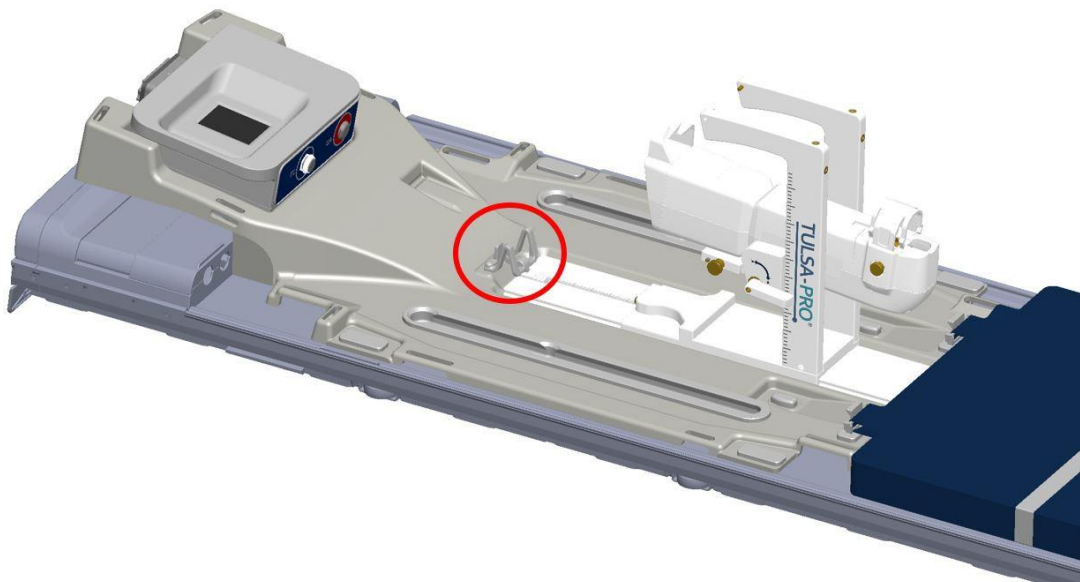

Figure 24: Secure the Positioning System using the latch on the base plate
2. **MRI Technologist:** Ensure that the slot for the PSIB is clear. Place the PS and PSIB in their respective slots on the base plate. Secure the Positioning System (PS) to its slot on the base plate between the patient's legs by snapping it into the latch (*Figure 24*).